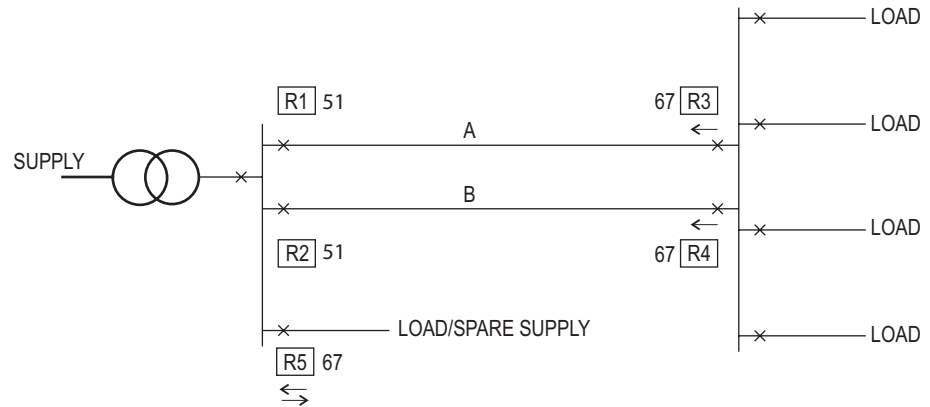

Figure 10.3: Feeder and motor device used for protection of parallel lines.
Figure 10.3 shows two parallel lines, A and B, protected with (51) overcurrent relays R1, R2, R3 and R4. The relays R3 and R4 are directional (67).